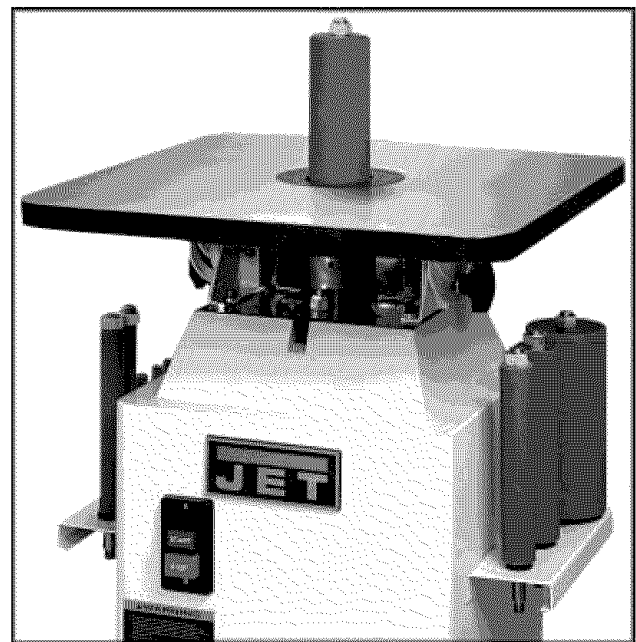

Fig. 2
4. To protect the sanding assemblies place them in the holders found on the sides of the sander, see Figure 2.